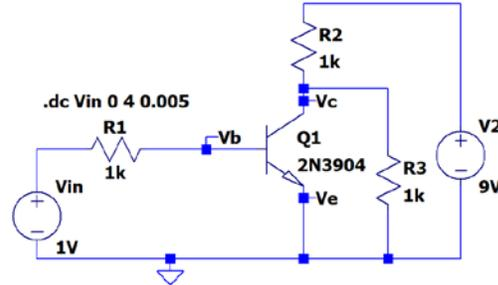

Figure A-3.
- Add the resistor R3 as shown in Figure A-3 to your circuit.
- For the circuit in Figure A-3, change the DC SWEEP for Vin to range from 0.4V to 0.9V.